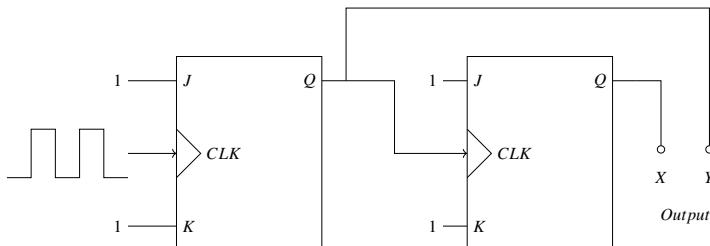

Fig. 5.18
18. The circuit shown in Fig. 5.18 below uses ideal positive edge-triggered synchronous $J - K$ flip flops with outputs X and Y . If the initial state of the output is $X = 0$ and $Y = 0$ just before the arrival of the first clock pulse, the state of the output just before the arrival of the second clock pulse is